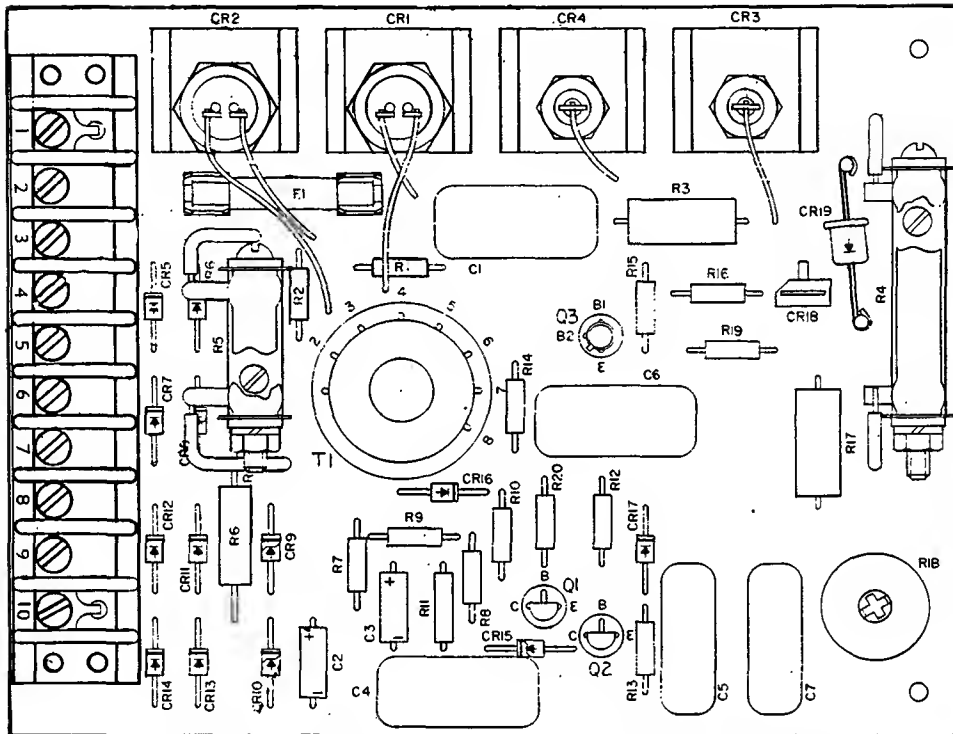

FIGURE 15. VOLTAGE REGULATOR PRINTED CIRCUIT BOARD (TYPICAL)
2. SCRs on VR1 are identified CR1 and CR2, and are positioned closest to the terminal board. See Figure 15.
Voltage adjustment of generators with voltage regulators VR1 mounted on the end bell is accomplished by turning Voltage Regulator rheostat on control panel. If voltage is unstable or tends to hunt adjust R18 potentiometer on the regulator board to eliminate output instability. Refer to Figures 15 and 16.